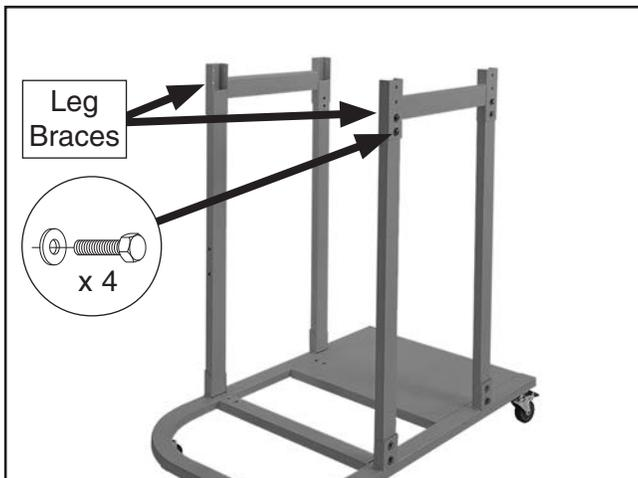

Figure 14. Leg braces installed.
- Attach each leg brace to lower legs and finger-tighten with (4) $\frac{5}{16}$ "-18 x $\frac{3}{4}$ " hex bolts and (4) $\frac{5}{16}$ " fender washers (see **Figure 14**).